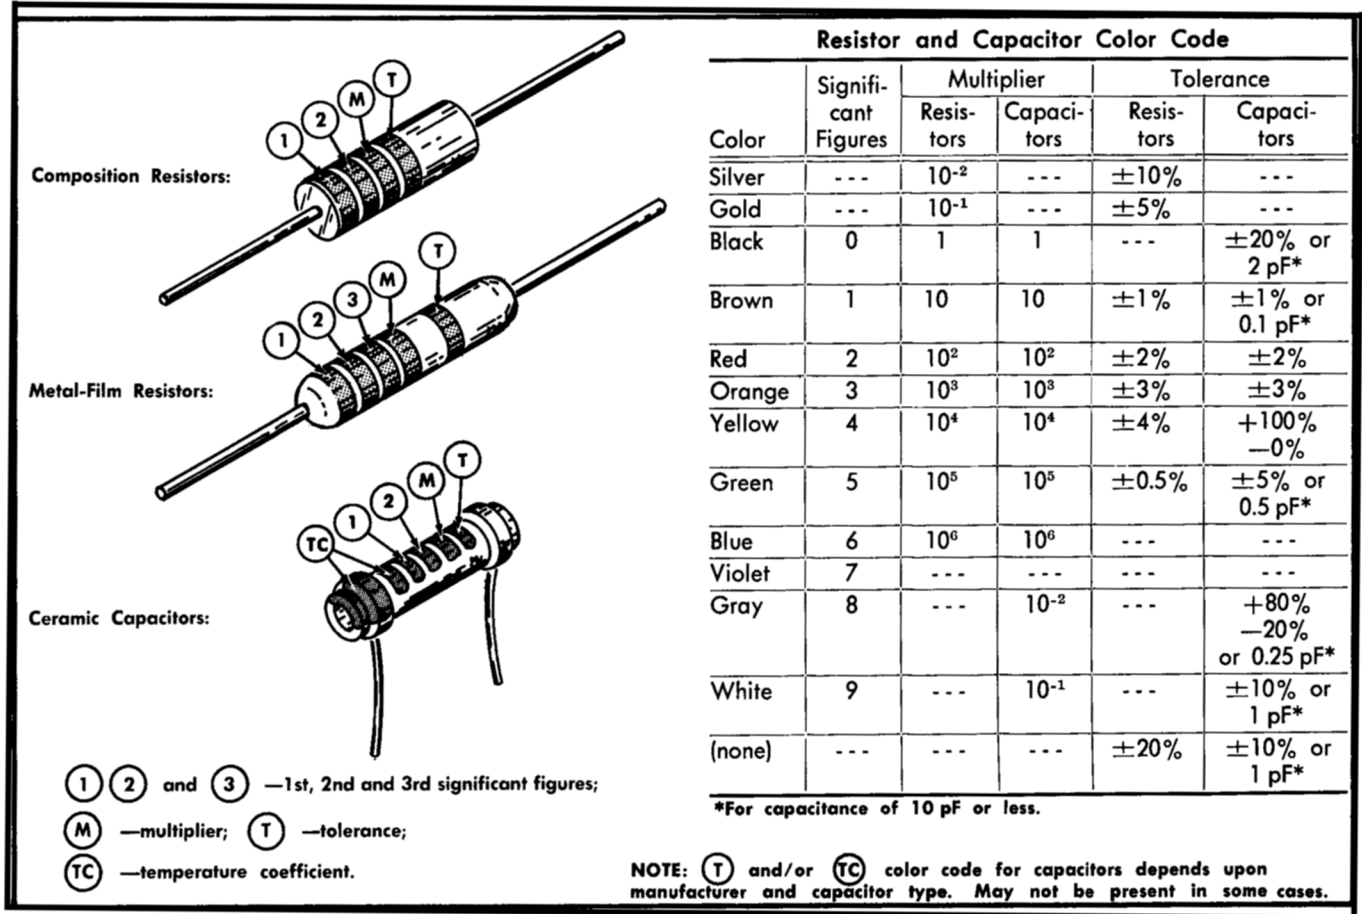

Fig. 4-1. Color-code for resistors and ceramic capacitors.
**Resistor Color Code.** In addition to the brown composition resistors, some metal-film resistors and some wire-wound resistors are used in the 7B52. The resistance value of a wire-wound resistor is printed on the body of the component. The resistance values of composition resistors and metal-film resistors are color-coded on the components (some metal-film resistors may have the value printed on the body) with EIA color code. The color code is read starting with the stripe nearest the end of the resistor. Composition resistors have four stripes which consist of two significant figures, a multiplier, and a tolerance value; see Fig. 4-1. Metal-film resistors have five stripes consisting of three significant figures, a multiplier, and a tolerance value.
**Capacitor Markings.** The capacitance values of common disc capacitors and small electrolytics are marked in microfarads on the side of the component body. The white ceramic capacitors used in the 7B52 are color-coded in picofarads using a modified EIA code (see Fig. 4-1).